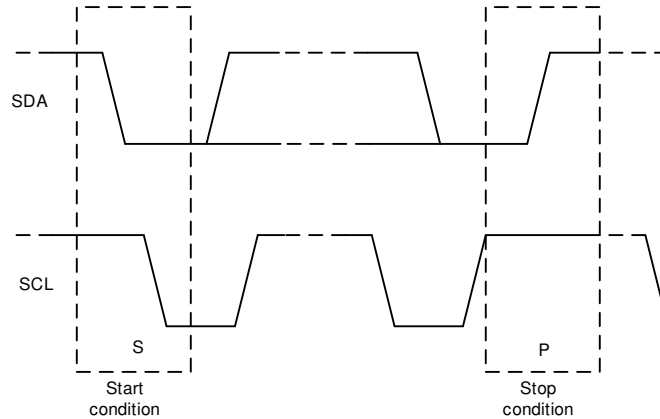

Figure 8-5. Start and Stop Conditions
- The controller initiates data transfer by generating a start condition. The start condition is when a high to-low transition occurs on the SDA line while SCL is high, as shown in Figure 8-5. All I²C-compatible devices recognize a start condition.
- To signal the end of the data transfer, the controller generates a stop condition by pulling the SDA line from low to high while the SCL line is high (see Figure 8-5). This action releases the bus and stops the communication link with the addressed target. All I²C-compatible devices recognize the stop condition. Upon receipt of a stop condition, the bus is released, and all target devices then wait for a start condition followed by a matching address.